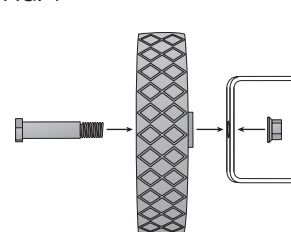

FIG. 5
FITTING THE BUMPERS (FIG. 5)
1. Insert threaded bolt through the isolator and thread into the bracket hole as shown in Fig. 5. Tighten the bolt securely.